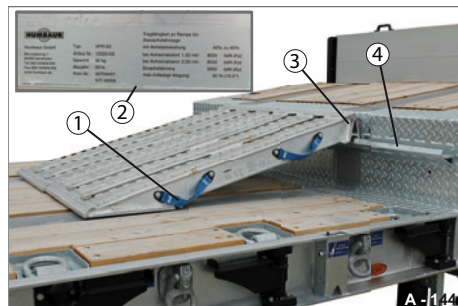

Fig. 153 Ramp planks placed
- ▶ Grab the individual ramp planks by the handles (Fig. 153/1). Observe that they weight approx. 43 kg.
- ▶ Hang the ramp plank with the suspension tappet (Fig. 153/3) on the suspension strip (Fig. 153/4) on the high plateau.
- ▶ Before driving over the ramp planks, make sure that the maximum permissible load is not exceeded - see name plate (Fig. 153/2).
- ▶ Before driving over, check that the ramp planks are lying completely on the suspension strip (Fig. 153/4) - they must not protrude over the suspension strip.